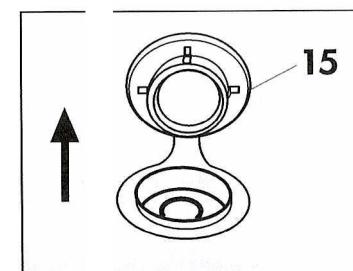

Fig. 8
Pour tap water or foam-free detergents into the detergent tank after lifting the fill cap (15) { Fig. 8}